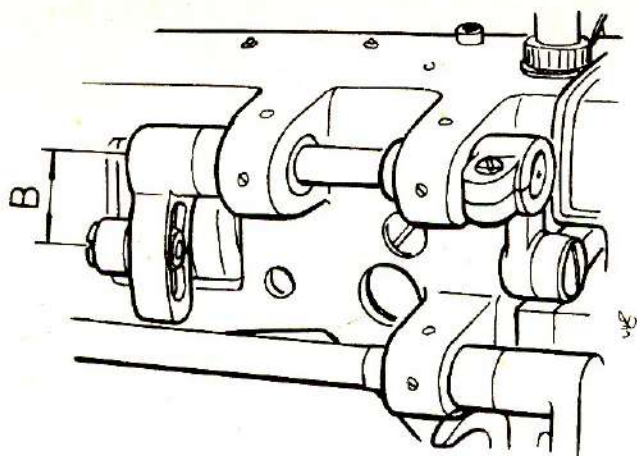

Fig.31
7. Adjusting the total lifts of the synchronous presser foot and small presser foot (fig.31)
In sewing processes, the synchronous presser foot and small presser foot lifts may be adjusted as shown in fig.31.